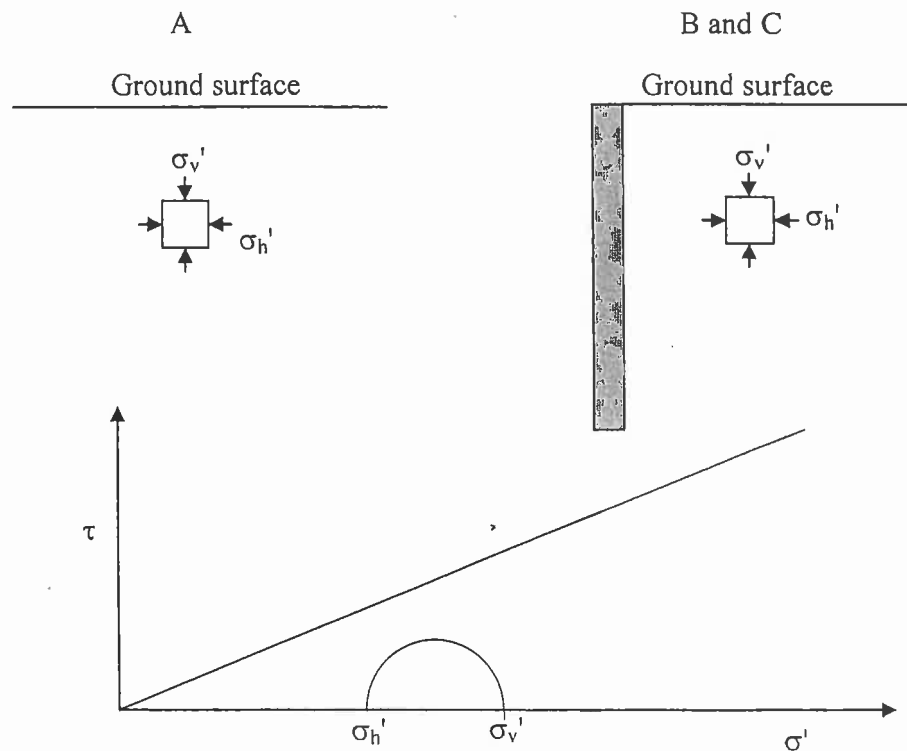

Figure Q.4
4. On figure Q.4, three stress conditions in a small volume of soil are considered. Under scenario A the conditions are “at rest”. Under scenario B, a rigid retaining wall is present and will move outward (to the left). Under scenario C, the rigid retaining wall will be forced to move into the soil (to the right). The graph below shows the Mohr circle of stresses existing at rest (A) in the small volume of soil illustrated. The failure envelope of the soil is also shown on the graph.